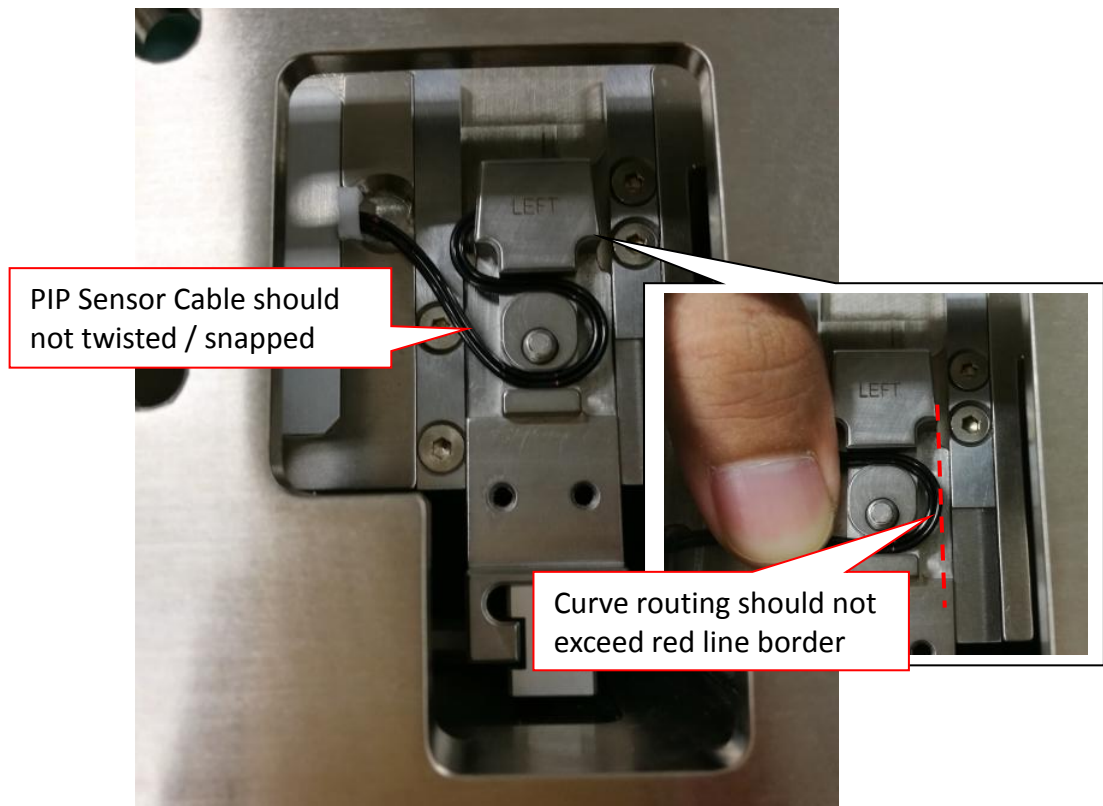

Figure 10 PIP Sensor Cable S-shape routing
3. Route PIP Sensor Cable into PIP Board Stop as shown in Figure 10